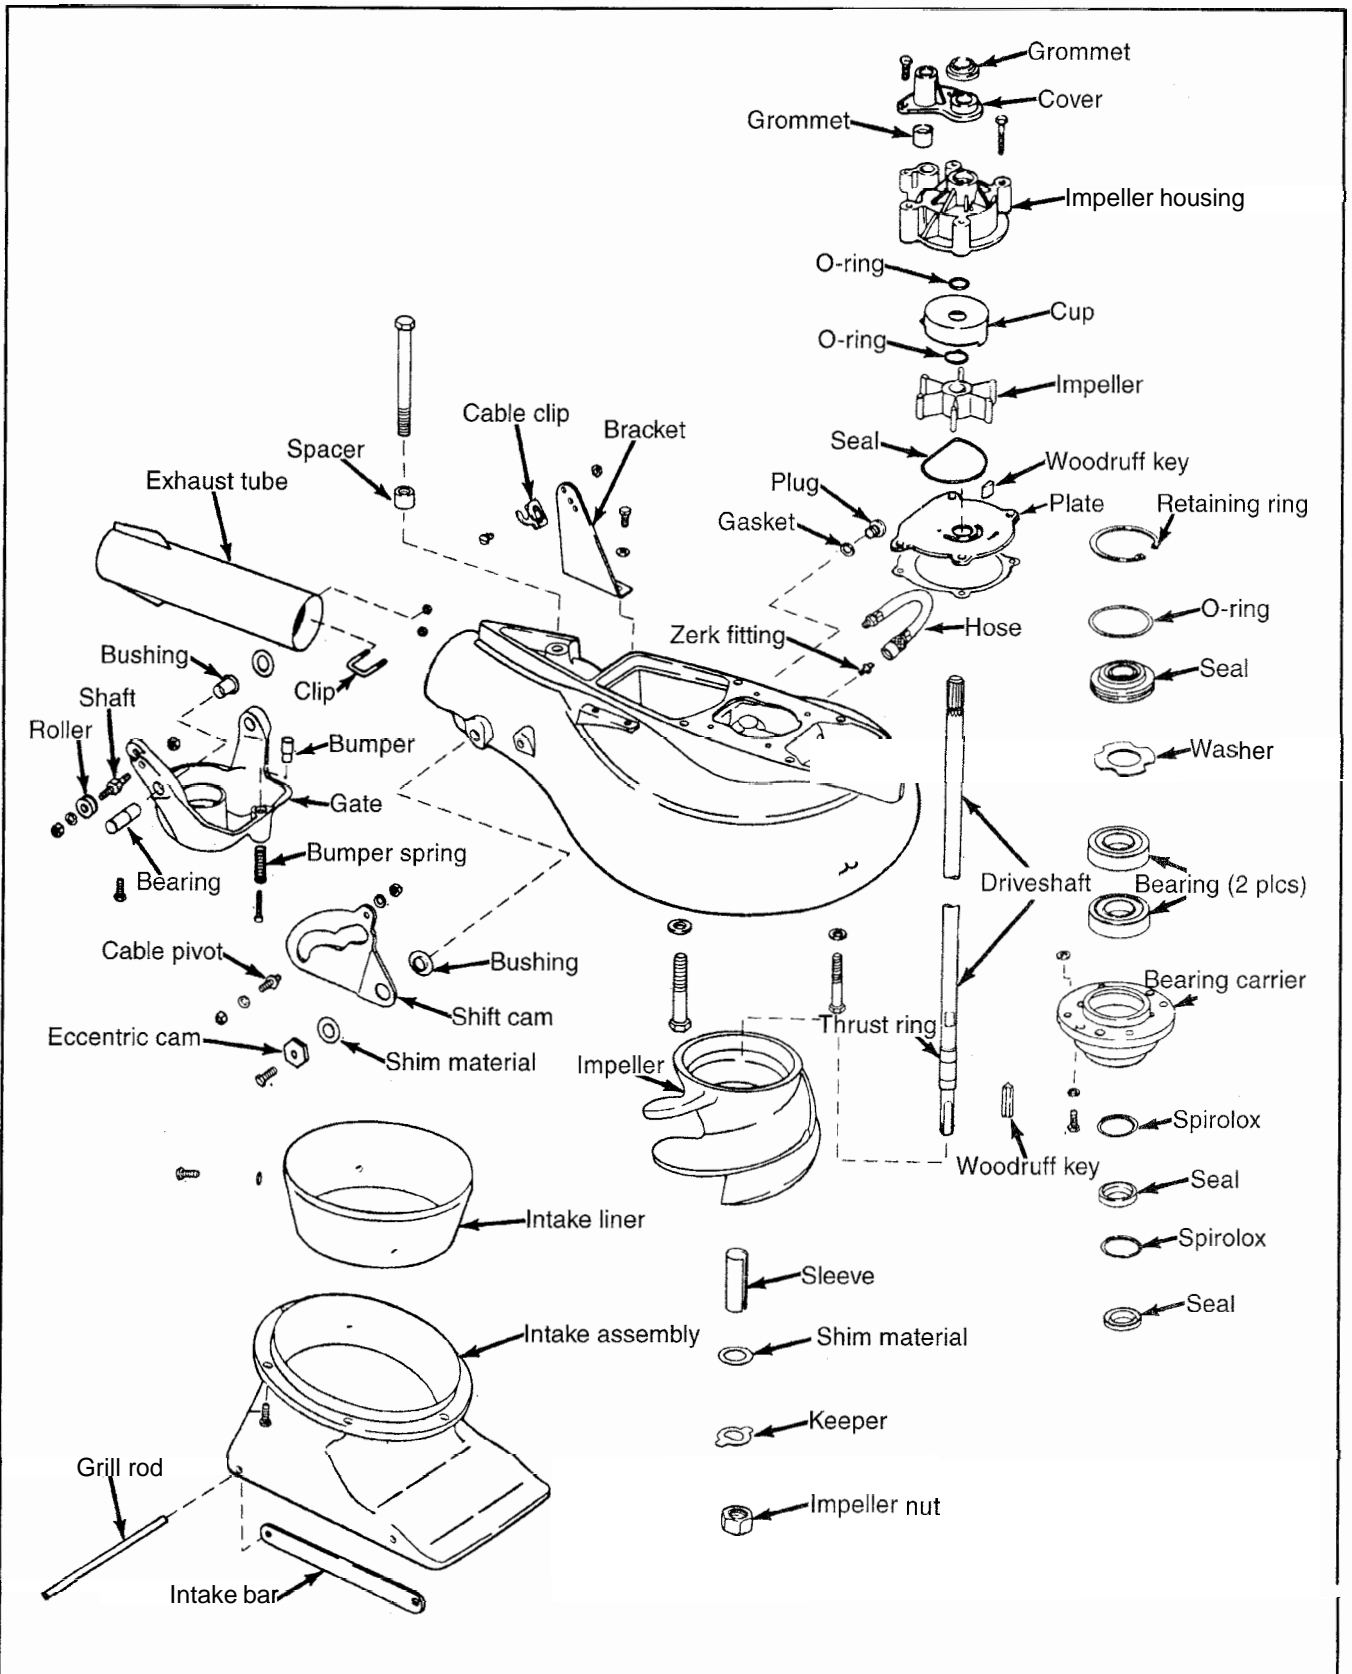

Fig. 140 Exploded view of a typical jet drive assembly
- ◆ See Figure 140
◆ See Figure 140